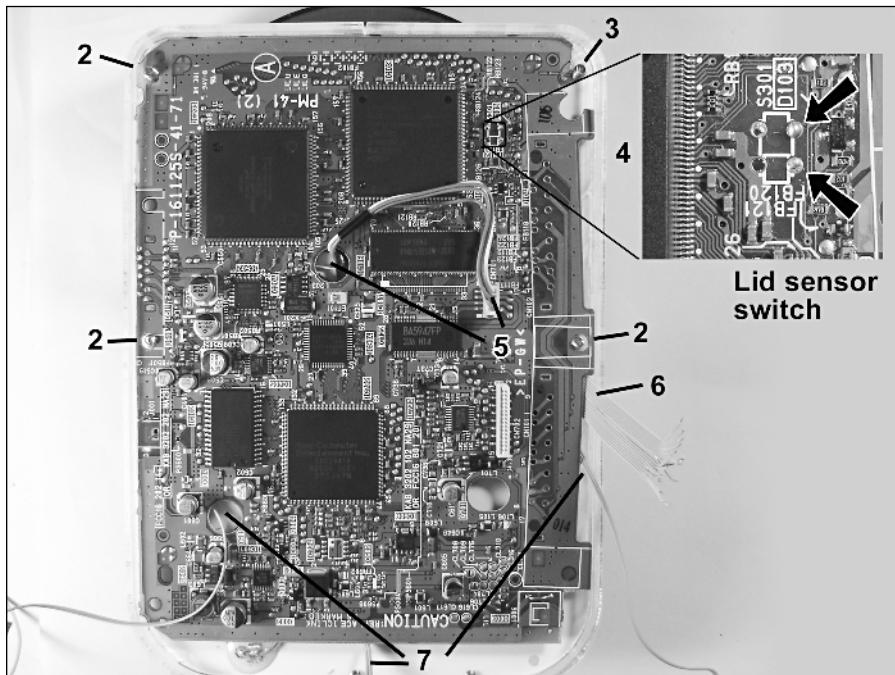

FIGURE 14-20: The PSOne motherboard set into the rear plate.
Okay, now we can install it. The PSOne motherboard will be attached to the rear half of the unit, as seen in Figure 14-20. Three of the six main screws holding the unit together will go through existing holes on the board, but they need to be enlarged. You'll also need to do some corner-snipping as well. Following the figure are the steps to take when installing the board.
4. Connect the *CD lid sensor switch wires* to the *lid sensor switch spot* on the board from behind (Spot 4 as shown in Figure 14-20).